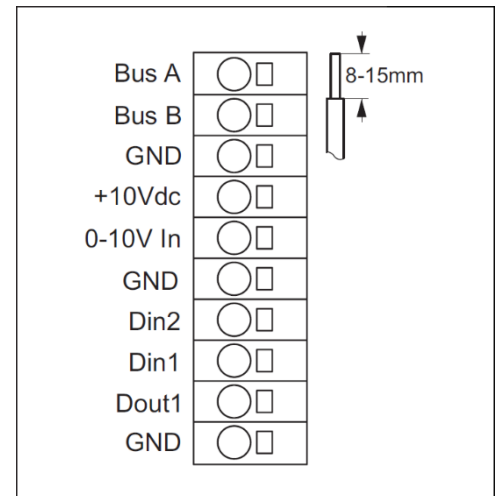

Fig. 3-15: A/D control terminals
- Connect A/D control signals to the terminal strip (see fig. 3-15).